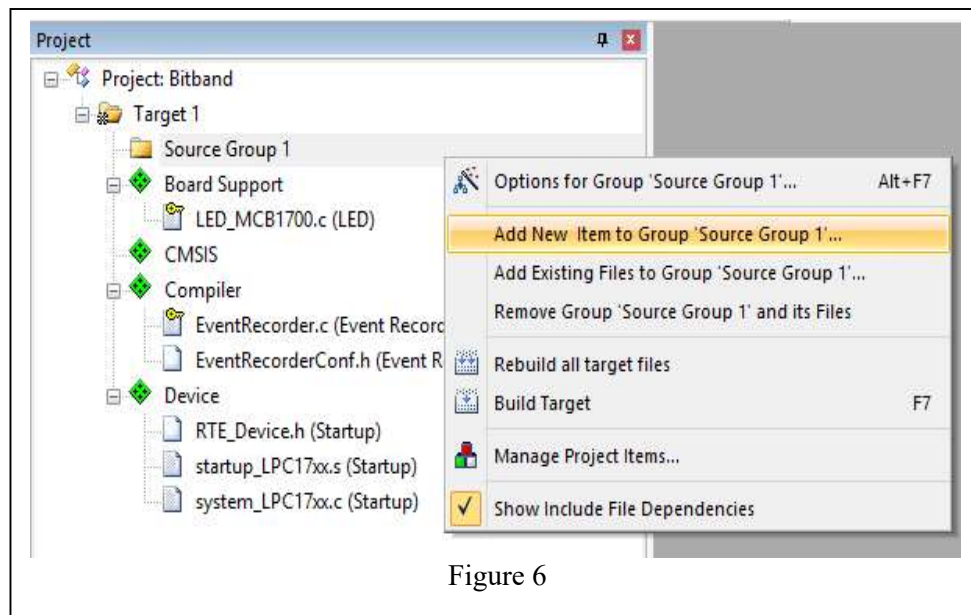

Figure 6
6. Right click on Source Group1 folder select “Add New Item to Group ‘Source Group 1’ as shown in Figure 6.